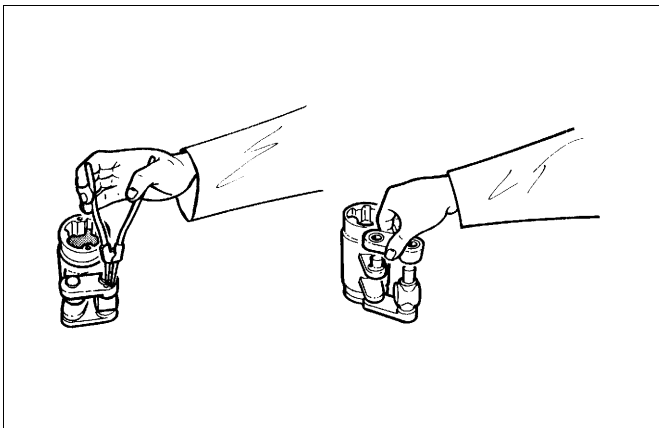

Fig. 14 Dismantling the linkage
- ❑ Remove the lock rings (36) and the support rings (37).
- ❑ Loosen the connection arms (4) and ring (4A), clean them and check the condition of the bearings, see Figure 14.